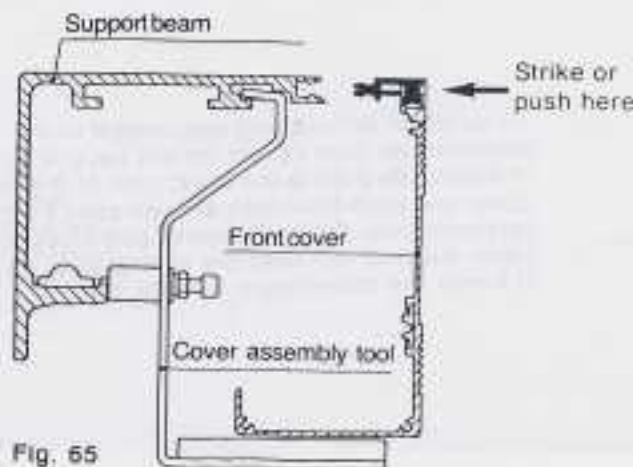

Fig. 65
- The front cover with plastic hinge is pushed or struck with a rubber hammer into correct position from the front. This installation is facilitated if a special cover assembly tool is used, see fig. 65. The door carriers must be slid open in order to release/secure the cover latches.